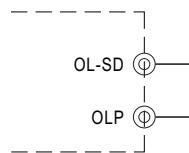

Fig. 5.1 Insert the CN3
(1) Insert the shorting connector on CN3 that is shown in Fig 5.1, the Overload Protection Type will be "constant current limiting with delay shutdown after 5 seconds, re-power on to recover". This is the factory default.